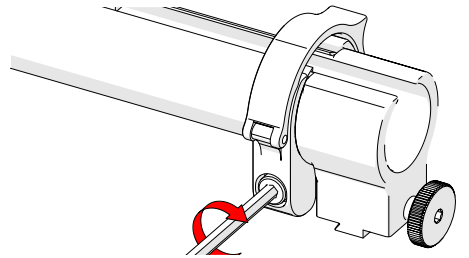

Fig. 109 - Tighten clamp screw
4. Tighten the clamp screw (Fig. 109).